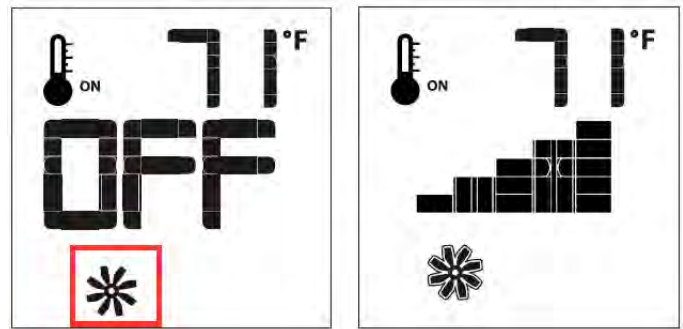

Figure 27l. Fan Speed Control
The fireplace is equipped with optional hot air circulating fans. The speed of the fans can be controlled by the Proflame system. The fan speed can be adjusted through six (6) speeds. To activate this function use the Mode Key, see Figure 27, to index to the fan control icon, see Figure 27l. Use the Up/Down Arrow Keys to turn on, off, or adjust the fan speed. A single "beep" will confirm reception of the command.